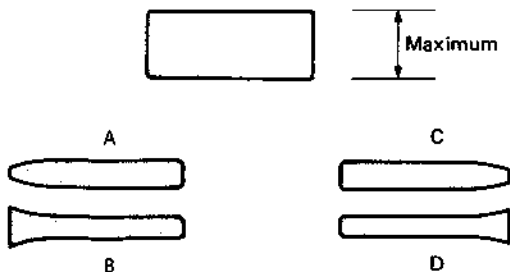
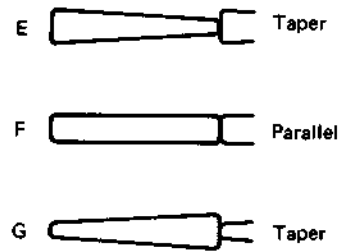

Fig. 4-41 Minimum FM output (incorrect examples)
Fig. 4-42 Minimum FM output (correct examples)
- If the waveform becomes as shown by A or B of Fig. 4-41, carefully adjust the supply guide roller height so that the waveform becomes as shown by E, F or G of Fig. 4-42. At this time, if the waveform fluctuates, adjust to the point of minimum fluctuation.
- If the FM waveform appears as shown by C or D in Fig. 4-41, carefully adjust the take-up guide roller height to obtain a waveform such as shown by E, F or G of Fig. 4-42. At this time, if the waveform fluctuates, adjust to the point minimum fluctuation.
- Vary the Tracking control from maximum to minimum FM output. Perform fine adjustment of supply and take-up guide rollers so that waveform variation becomes as shown by E, F or G of Fig. 4-42.